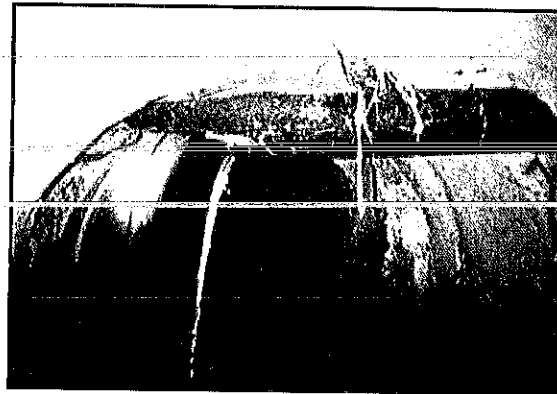

Figure 1: Sewer Pipe Discharging to the Storm Drain System
*Sewage cross-connections:* A sewer pipe that is improperly connected to the storm drain system produces a continuous discharge of raw sewage to the pipe (Figure 1). Sewage cross-connections can occur in catchments where combined sewers or septic systems are converted to a separate sewer system, and a few pipes get “crossed.”